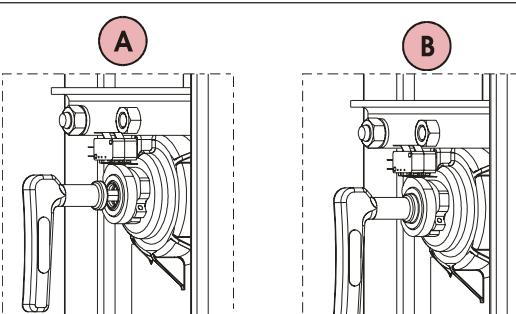

Fig.18
- fit the special key, located inside the upright, in the release hole (fig.18, ref.A) and turn it clockwise for a few turns until you reach the mechanical stop limit.
Attention: There is a round edge on the release key, which must rest on the shaft (fig. 18 ref.B). When this position is reached, stop turning the release key to avoid jeopardising the efficiency of the system.